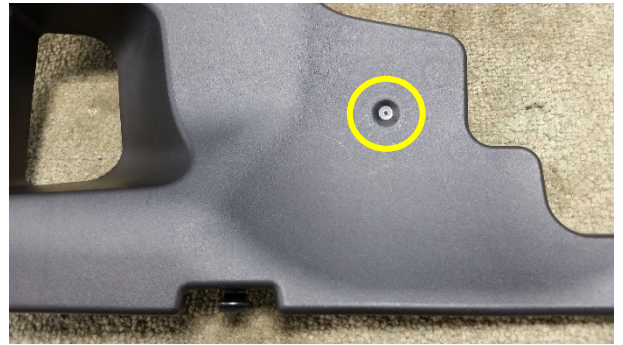

Figure 18
24. Drill a 5/8" hole in the injection release point shown in Figure 18.